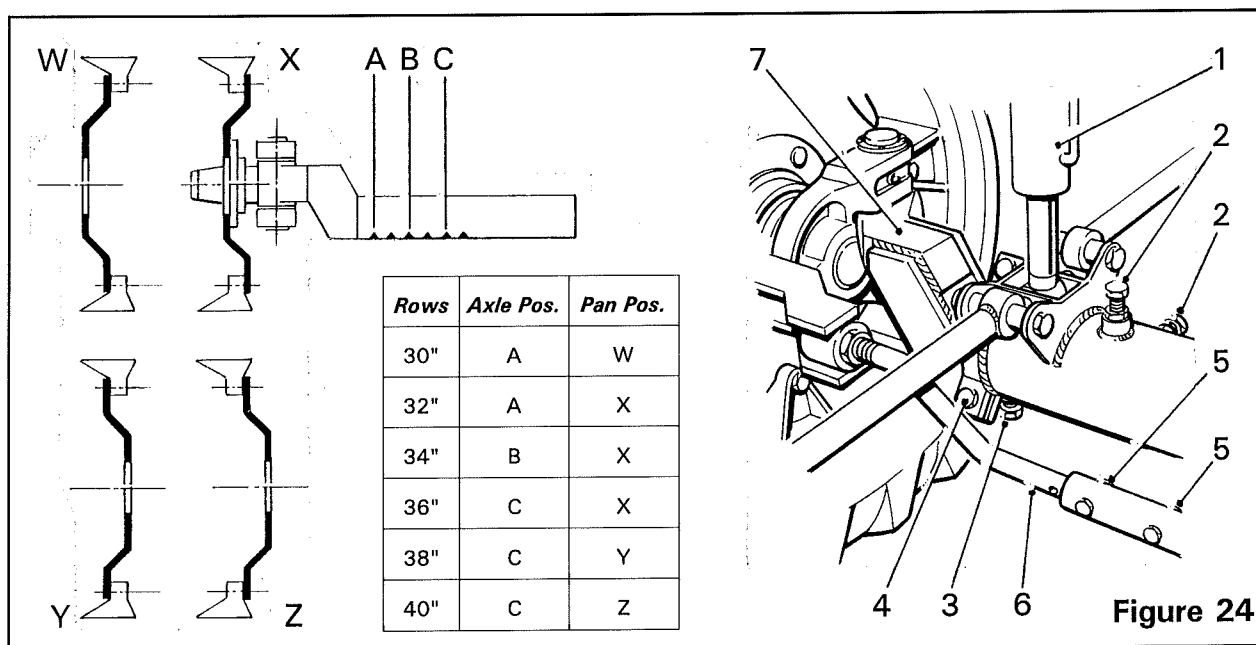

Figure 24
Control of the steering and levelling is from the in-cab control box. The switch marked 'Machine Level Raise/Lower' operates the levelling ram (*item 1, figure 24*) between the chassis and the axle. Steering is operated by the push buttons. The two yellow buttons 'Left' and 'Right', steer the rear of the machine in the indicated direction. The red button 'Axle Centre' when pressed and held, operates the self centring circuit which automatically sets the wheels to the straight ahead position.
2. Slacken the clamp bolts (*item 2, figure 24*) and the locking bolt (*item 3, figure 24*), and release the clamp (*item 4, figure 24*).
3. Remove the drag link bolts (*item 5, figure 24*).
4. To set the track, pivot the wheel by hand to lengthen or shorten the drag link (*item 6, figure 24*) and replace the drag link bolts loosely.
5. Slide the axle beam (*item 7, figure 24*) out to the required position by pulling on the wheel opposite the drag link.
6. Relocate the locking bolt (*item 3, figure 24*) into the appropriate dimple (*A,B,C, figure 24*) under the axle beam and retighten all bolts.
If it is necessary to reposition the wheel pan, reassemble them to the relative positions shown (*W,X,Y,Z, figure 24*).